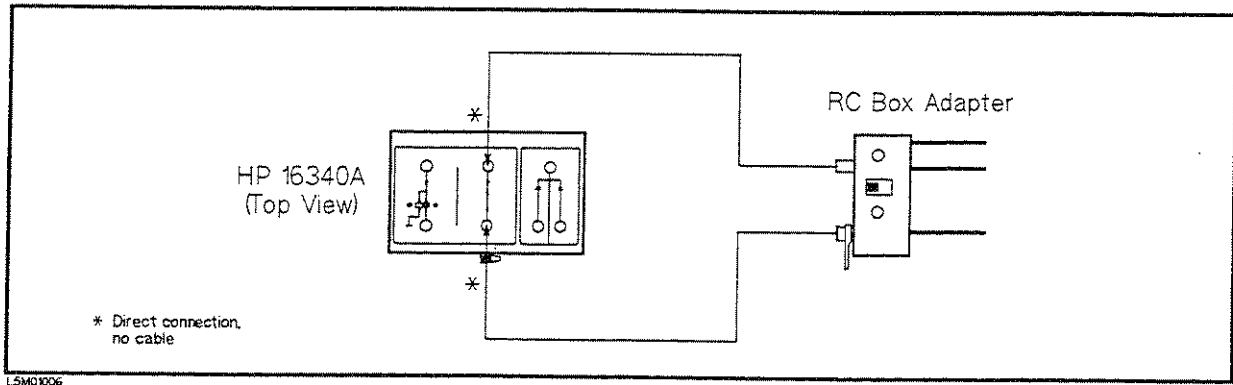

Figure 9-3. RC Box Connection
10. Connect the RC Box to the RC Box adapter as shown in Figure 9-3.